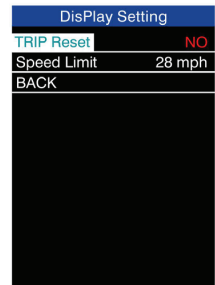

Figure 2
2. Press the [i] button to enter display setting (Figure 2).